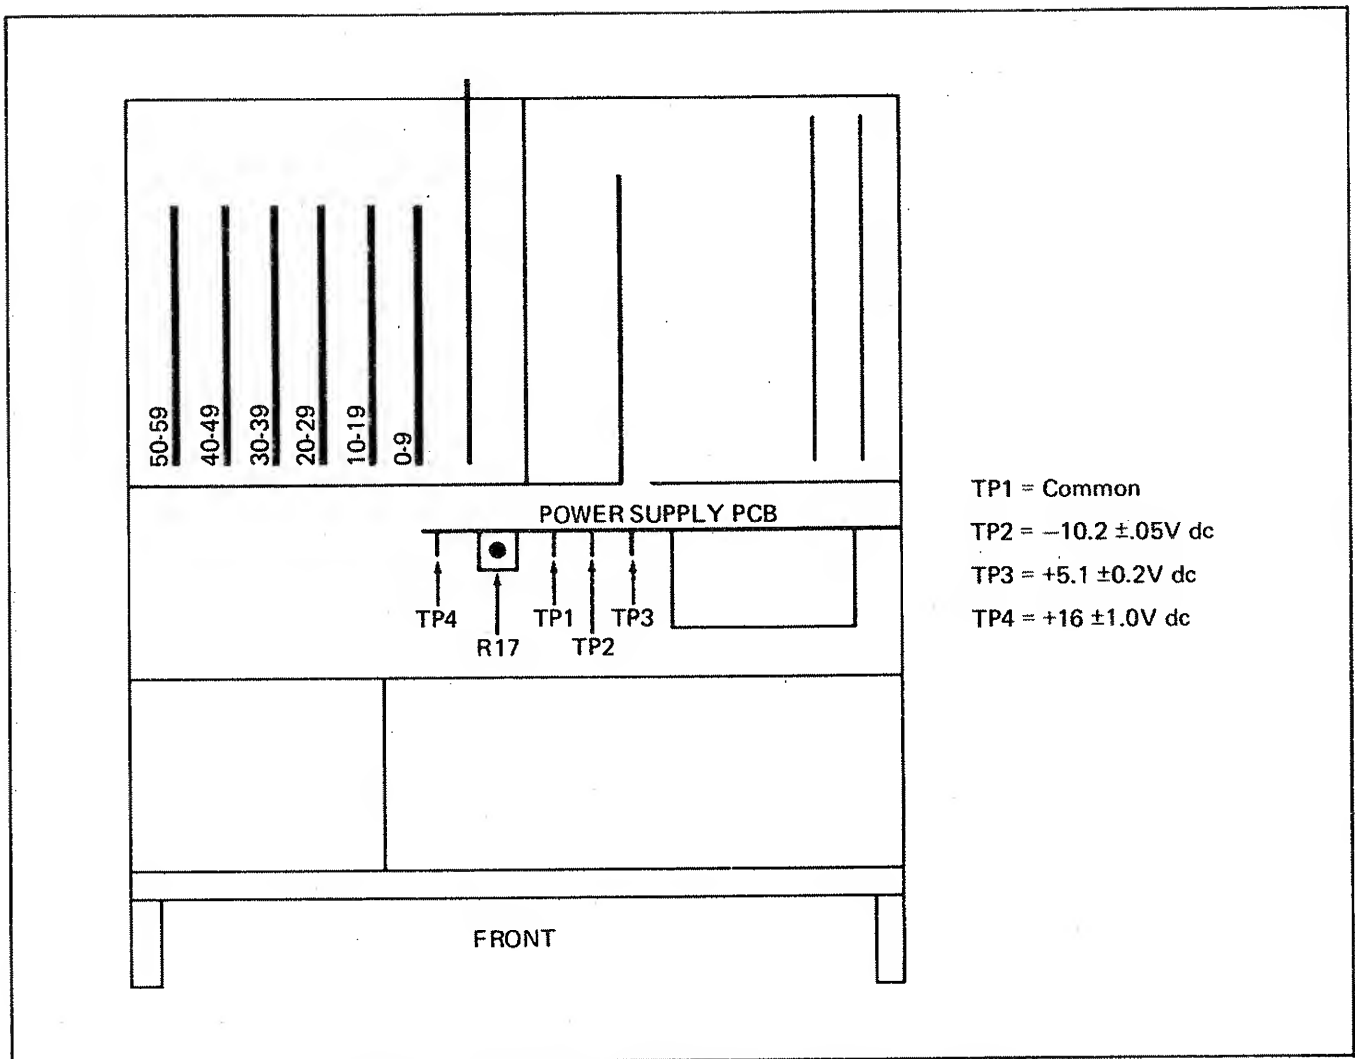

Figure 4-4. Power Supply Test Point and Adjustment Locations
1. Connect the DVM to TP1 (common) and TP2 (-10.2V dc) on the Power Supply PCB. See Figure 4-4.